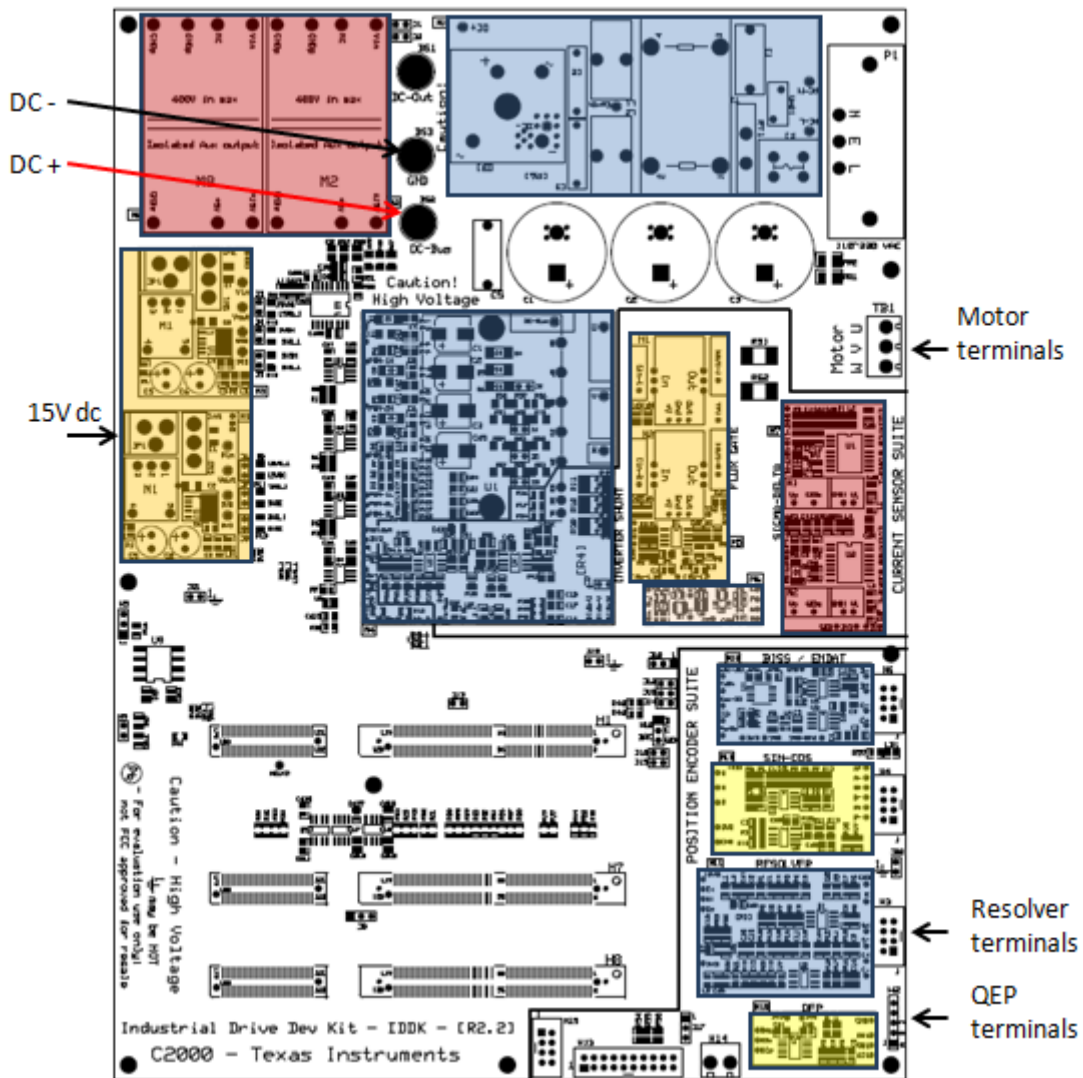

Figure 3-1. Connection Diagram With External Variable DC-Power Supply Providing DC-Bus Voltage
- (b) Connect [Main]-BS2 and [Main]-BS3 to the + and – terminals of the DC-power supply, respectively. (See Figure 3-1.)